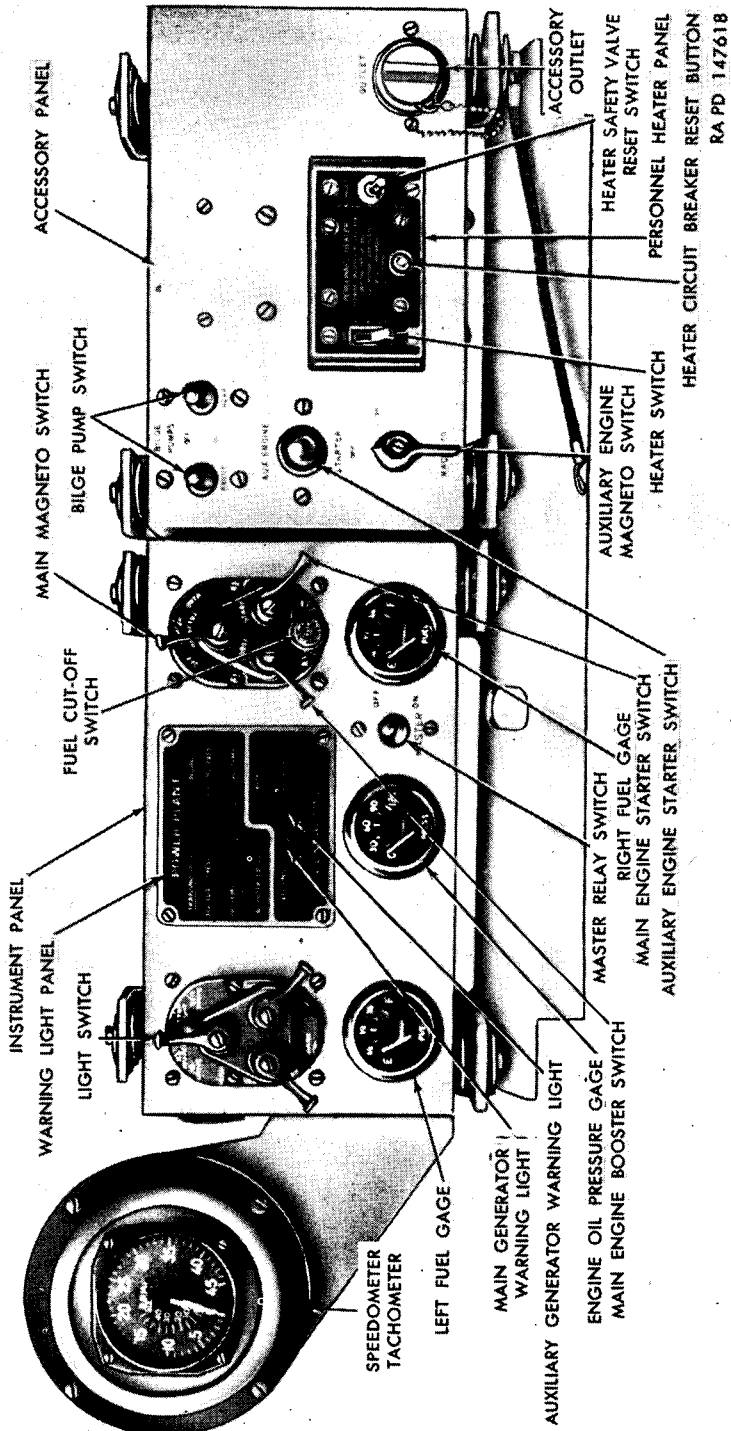

Figure 18. Instrument and hull accessory panels.
The master relay switch (fig. 18), marked "MASTER," is located on the lower-right side of the instrument panel. This switch controls the master relay in the master junction box which controls the entire vehicle electrical system by connecting or disconnecting both sets of storage batteries from all other electrical equipment.
a. GENERAL. The main-engine-magneto switch (fig. 18), marked "MAGNETOS," is located in the upper-right corner of the instrument panel. It is a four-position switch which controls the four main engine magnetos by making and breaking the magneto's ground connection.
The main-engine-starter switch (fig. 18), marked "START," is located in the upper-right corner of the instrument panel, on the same housing as the main-engine-magneto switch. It has two positions, "ON" and "OFF," selected by means of a spring-loaded lever. The switch is normally in the "OFF" position. To operate, turn the lever to the "ON" position and hold; when released, it will return automatically to the "OFF" position.
The main-engine-booster switch (fig. 18), marked "BOOST," is located in the upper-right corner of the instrument panel, on the same housing as the main-engine-magneto switch. It is used to energize the boosters to facilitate starting of the main engine. It has two positions, "ON" and "OFF," selected by means of a spring-loaded lever. The switch is normally in the "OFF" position. To operate, turn the lever to the "ON" position and hold; when released, it will return automatically to the "OFF" position.
The fuel-cut-off switch (fig. 18), marked "FUEL OFF," is located in the upper-right corner of the instrument panel, in the lower-center of the main-engine-magneto switch housing. It is used to operate the degassers which shut off the flow of fuel to the idle circuits in the carburetors. To stop the engine, press the switch button in and hold until the engine stops.
a. **GENERAL.** The light switch is located in the upper-left corner of the instrument panel (fig. 18). The switch is a three-lever-type switch with main switch, auxiliary switch, and mechanical lock lever (fig. 19).
- (1) *Main switch.* The main switch is located at the top of the light switch housing. On this vehicle, this switch is used only in "BO DRIVE," "BO MARKER," "OFF," and "SER DRIVE" positions. The "STOP LIGHT" position is not used.
- (2) *Auxiliary switch.* The auxiliary switch is located on the lower-left corner of the light switch housing. It is not used in this vehicle.
- (3) *Mechanical lock.* The mechanical lock lever is located on the lower-right of the light switch housing. The lever must be turned counterclockwise and held in this position to allow the main switch to move from "OFF" to "SER DRIVE" or from "BO MARKER" to "BO DRIVE" positions.
The speedometer-tachometer (fig. 18) is secured to the left side of the instrument panel. The inner dial indicates vehicle speed in miles per hour, with a range of 0 to 50. The outer dial indicates engine crankshaft speed in hundreds of revolutions per minute with a range of 0 to 45.
Two fuel gages (fig. 18) are mounted on the instrument panel. The gage in the lower-left corner of the panel indicates the amount of fuel in the left fuel tank. The gage in the lower-right corner of panel indicates the amount of fuel in the right fuel tank.
The engine oil pressure gage (fig. 18) is mounted in the lower-center section of the instrument panel. The gage indicates main engine oil pressure, with a range of 0 to 120 psi. Normal engine oil pressure is 60 to 70 psi.
a. GENERAL. Six warning signal lights are mounted in a panel in the upper-center section of the instrument panel (fig. 18). Two of these lights provide warning of trouble in the transmission, two of trouble in the main engine, and two of excessive reverse current in the generators. A main warning light (fig. 21), mounted on the left hull wall in the driver's compartment, is provided to attract the driver's attention when one of the engine or transmission warning lights is on.